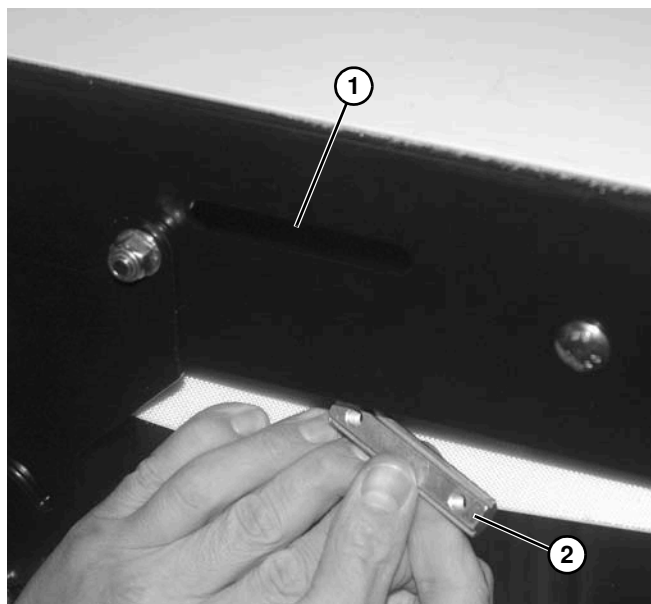

Figure 51
2. Locate slot (**Figure 51, item 1**) on conveyor frame for installing tee bar (**Figure 51, item 2**).